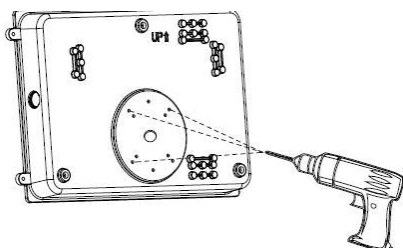

Figure 3
5. Drill mounting installation holes needed for the installation into the back of the fixture. (Figure 3)